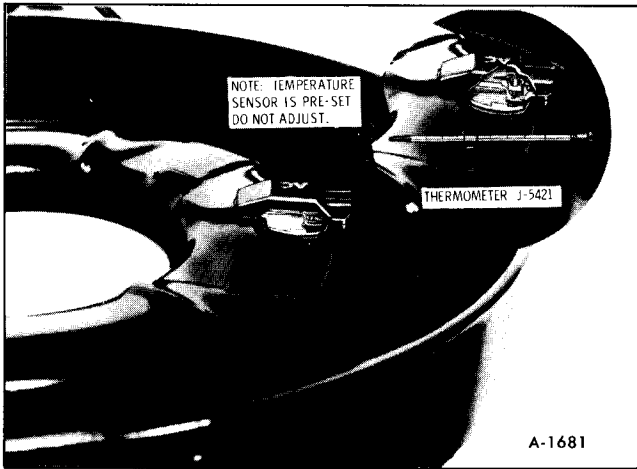

Figure 5—Checking Sensor
1. With the engine off, remove air cleaner cover and tape thermometer J-5421 in air cleaner next to sensor (See figure 5).